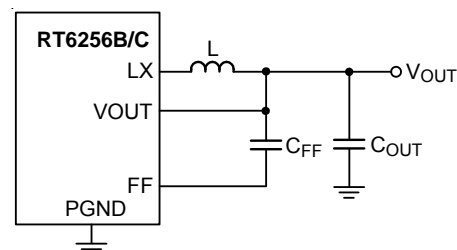
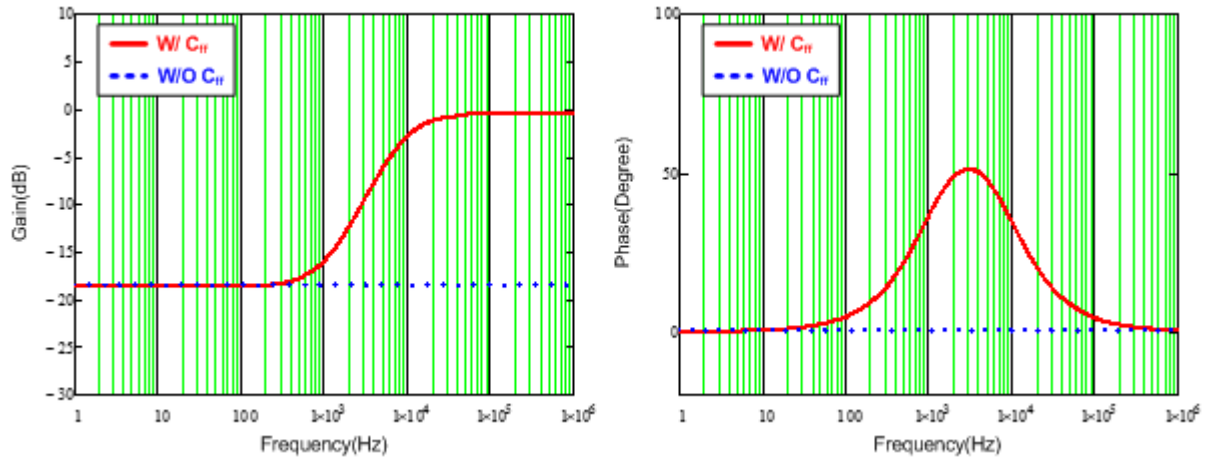

Figure 4. Feedback Loop with Feedforward Capacitor
Figure 5. Bode Plot with Different Feedback Loop Conditions
For saving time to design compensator and reducing the layout area through external components, the components of compensator are integrated in IC. However, this integrated compensator might not suit to every load transient spec. Hence, for the RT6256B/C to be more adaptable, the feedforward capacitor CFF is used in the feedback loop to improve transient response, as shown in Figure 4. Figure 5 shows the comparison result of bode plot with different feedback loop conditions. Referring to Figure 5, through connecting a CFF in feedback network, the gain and phase are raised in mid-frequency that not only can extend the bandwidth, but boost the phase margin as well. Moreover, there is also a high frequency pole to eliminate high frequency noise. Consequently, those features of feedforward feedback network allow the RT6256B/C have faster response to handle different load transient.
Observing Figure 5, the maximum phase boost occurs between zero and pole frequencies that is defined as maximum phase boost frequency, as expressed in equation (4). Hence, in order to achieve the maximum phase boost by adding  $C_{FF}$  in the RT6256B/C, the system's original bandwidth has to be located at maximum phase boost frequency.